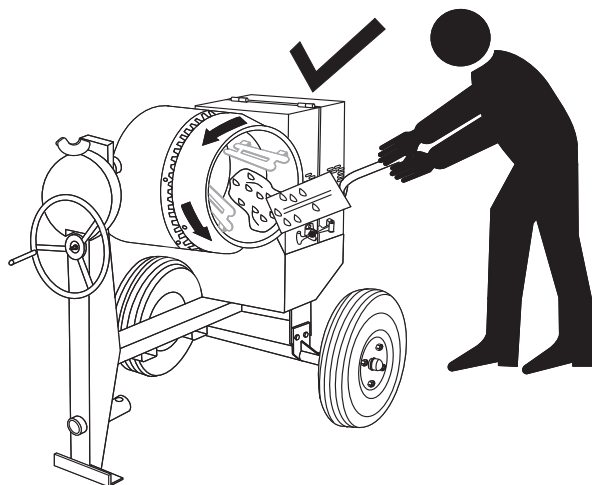

Figure 19. Filling Mixing Drum
2. As the drum rotates, use a shovel (Figure 19) to place the cement mix inside the drum, add water as required. Be careful to only place the **tip** of the shovel inside the drum.